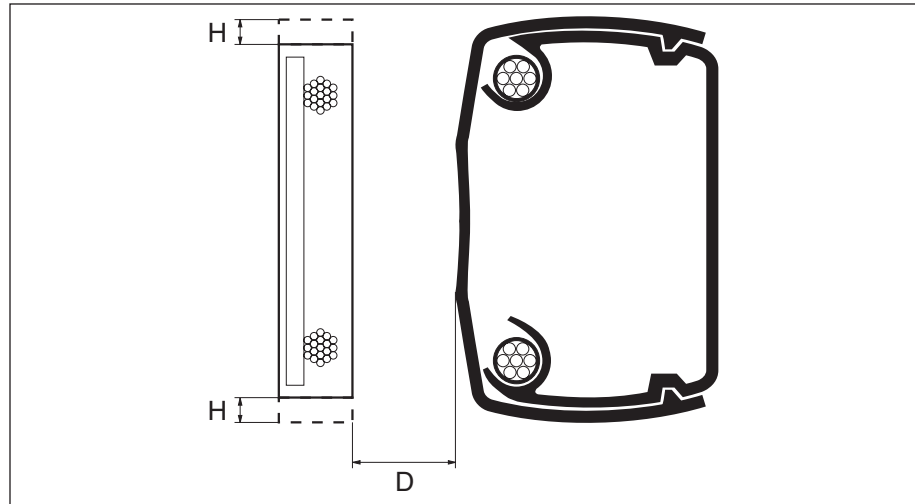

Fig. 6-3: Tolerances when positioning the antennae
- Distance D between the antennae (see Fig. 6-3 and Fig. 6-4): Min. 10 mm
- Height offset H of the antennae (see Fig. 6-3): Max. 10 mm
Fig. 6-4: Relation of antenna distance  $D$  (see Fig. 6-3) to the opening width  $L$ ,  $D_{max}$  only valid with ideal conditions: a Safety Edge and 2.6 m transmitting antenna connection line